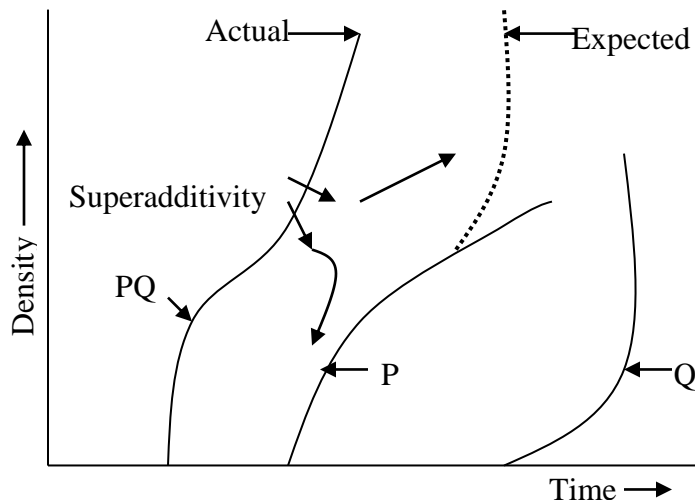

Figure 4: Diagrammatic representation of superadditivity.
- phenidone (P) and
- hydroquinone (Q).
P and Q are not used separately but in combination to produce a phenidone-hydroquinone (PQ)-type developer. Using two agents in combination produces considerable advantages, which will become apparent (see figure 4).
This is another almost unique effect of the photographic process. It is an advantage that arises when using agents in combination. *Superadditivity may be described as the combined activities of two developing agents in the same solution which is greater than the sum of their separate activities.* This is illustrated in figure 4.
3. Regeneration — in this reaction the first oxidation product of phenidone reacts with hydroquinone to yield ordinary phenidone. This means that the concentration of the most active ingredient is kept high, thus assisting the left shift shown in figure 4.